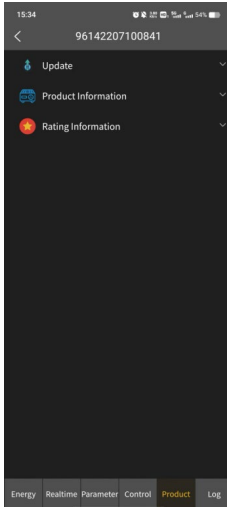

Figure 2
2. Click the "Product" button marked in red square in Figure 1 to enter the Product Screen, as shown in Figure 2.